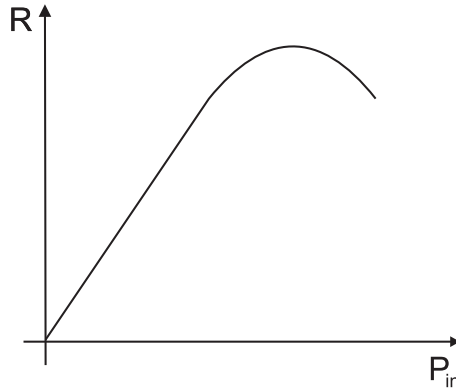

Figure 13: Relative power transmitted to the first diffraction order as a function of sound-power
where  $L$  is the interaction length of the light beam with the sound wave,  $\lambda$  is the optical wavelength,  $\theta_B$  is the Bragg angle,  $I_s$  is the intensity of the sound wave.  $M_2$  is a *figure of merit* for the used acousto-optic material2, in the case of the used TeO2 the constant is  $M_2 = 34.5 \times 10^{-15} \text{ s}^3 \text{ kg}^{-1}$ . For low sound-input power, the behaviour is approximately linear. For higher sound-input powers the power behaves as a squared sine function, as shown in Figure 13.
3. Optimize the power in the first order maximum. Determine the relation between the power in the first order maximum, relative to the power in the un-diffracted beam vs. the *amplitude* of the sound wave, see also Fig. 13. Make sure beforehand that the photodiode is not saturated, as before.